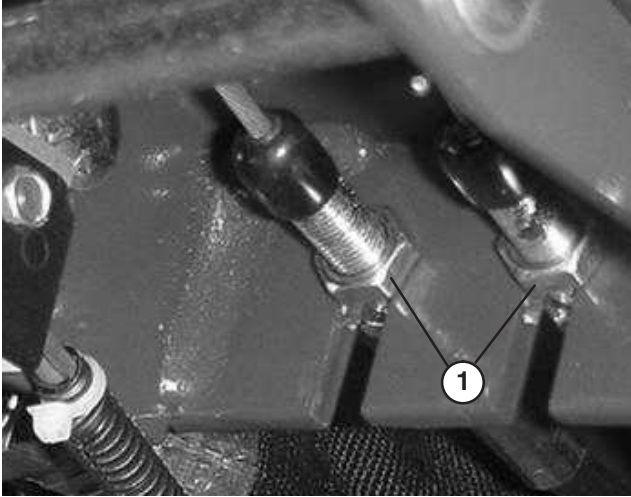

Figure 63
1. To reduce free travel of turn pedals—tighten the brakes—loosen front nut on threaded end of brake cable (Fig. 63). Then tighten rear nut to move cable backward until turn pedals have 1/2 to 1 in. (13 to 25 mm) of free travel. Tighten front nut after brakes are adjusted correctly.